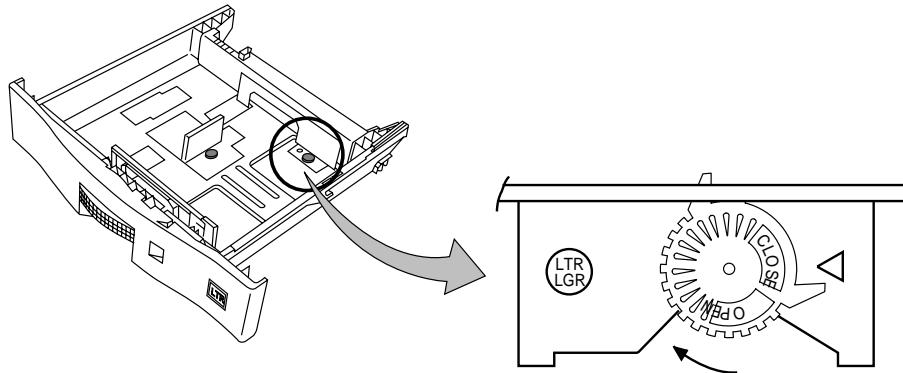

Figure 3-6 Locking device
2. Turn the blue locking thumbwheels on each paper guide counterclockwise to the OPEN position (Figure 3-6).